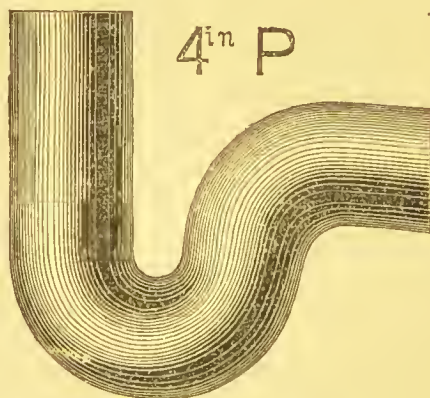
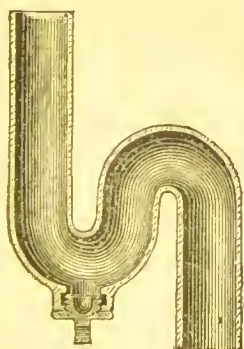

FIG. 7.
FIG. 8. SECTION.
Traps with a cleansing "cap and screw" attached (see Figs. 8 and 9) are always very convenient when fixed to lavatories and sinks, &c. &c., or at the *foot of soil-pipes*; but to water-closets, and places of that kind, they are of no value, for the hand can always get down to the trap through the apparatus. When a trap has a "cap and screw" attached to it, care should be taken to see that this cleansing screw-cap is *below* the water-dip, and on the *house-side of the trap*—i.e., it should be under the level of the water in the trap. Where
*Patent Cast-lead Trap.*—The most self-cleansing lead trap now in use is the patent cast-lead trap, as Figs. 7, 8, and 9: there are no soldered
made by hydraulic pressure. The substance of the lead is regulated, but the strength is equal to Strength. milled lead 7 lbs. and 8 lbs. to the superficial foot. It consists simply of a round pipe cast into the shape somewhat of a reaper's hook in the one case, as Figs. 7 and 9; and in the other somewhat of the letter S, as Fig. 8. Figs. 7 and 9 are known in the trade by "P" or "Half S," and Fig. 8 by "S."
A cap and screw are attached to the smaller size traps, as shewn in Sections, Figs. 8 and 9, for cleaning-out purposes, and for unstopping the
waste-pipes on which they are fixed when necessary. The 4-in. trap, Fig. 7, can always have a cap and screw soldered to it when fixed in places where the hand cannot be put into the inlet, or dip-part, of the trap; but this can always be done when they are fixed under a water-closet or slop-sink, and also when there is a 4½-in. rim and grate